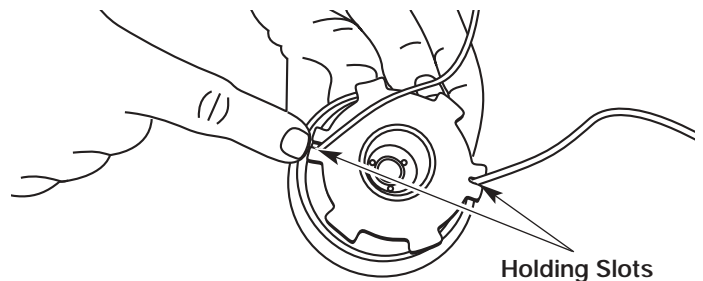

Fig. 31
- Insert the ends of the line into the two holding slots (Fig. 31).